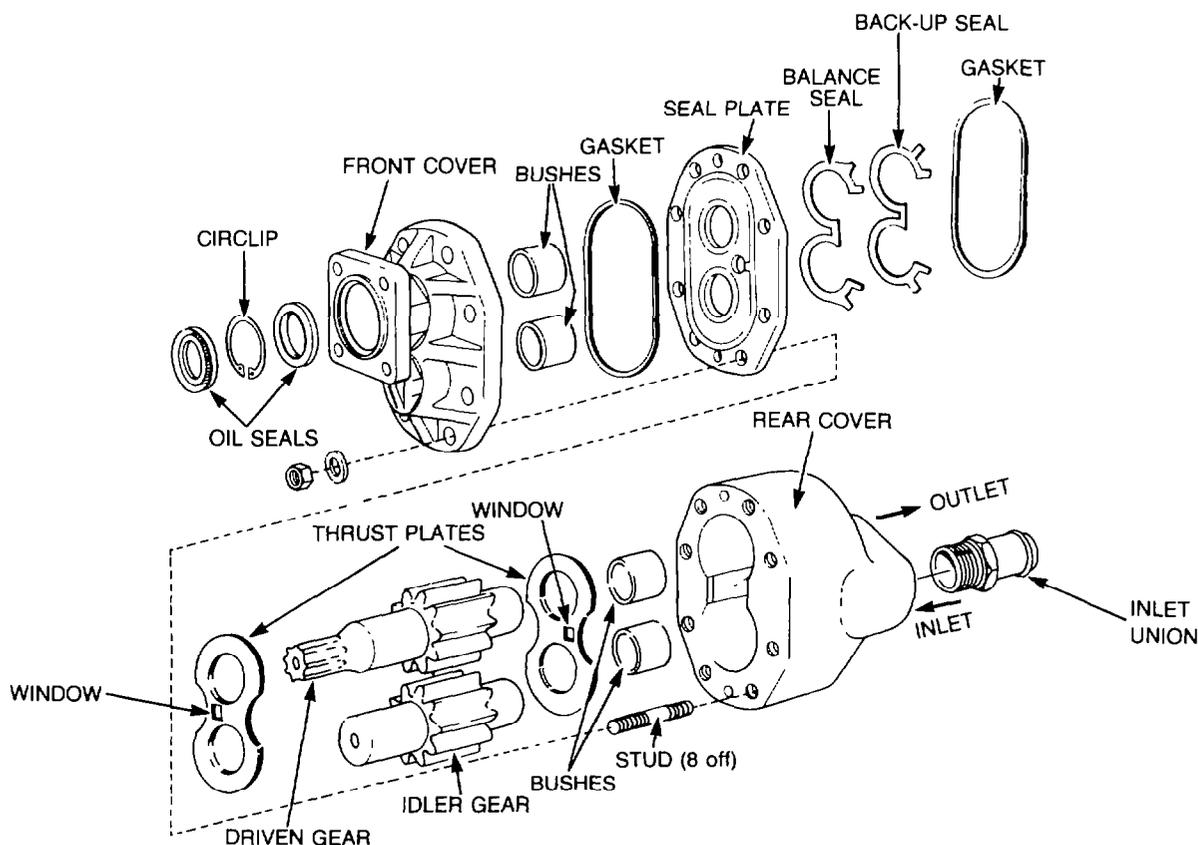

Figure 199 — Hydraulic Pump — Exploded View
- c. Install a new balance and back-up seal into the seal plate grooves (see Fig. 199).